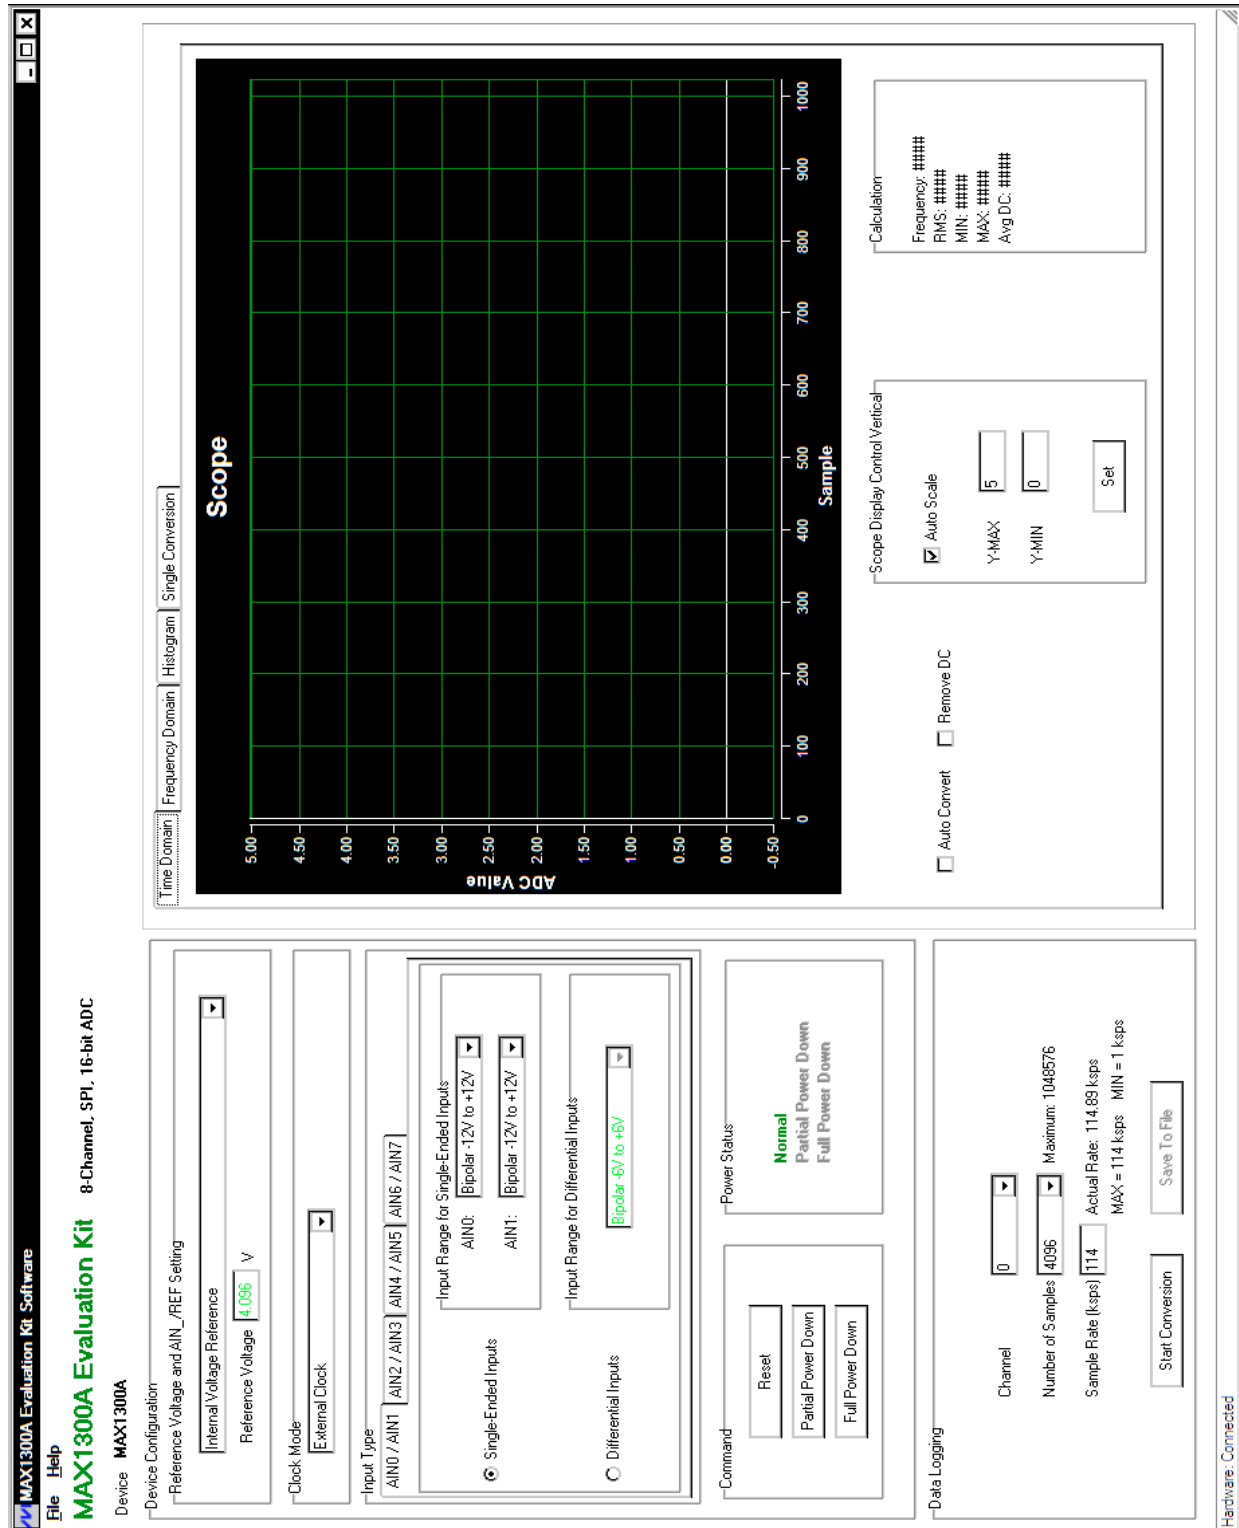

Figure 1. MAX1300A EV Kit Software (Main Window)
- 8) Start the EV kit software by opening its icon in the **Start | Programs** menu. The EV kit software main window appears, as shown in Figure 1. The GUI indicates whether the USB hardware is connected in the lower-left status bar.
The MAX1300A EV kit software main window is shown in Figure 1. The main window of the GUI contains a **Device Configuration** group box, a **Data Logging** group box, and four tab sheets to display the sampled data. The EV kit software allows various sample sizes and sample rates for use with the **Scope** plot in the **Time Domain** tab sheet. The **FFT** spectral energy is displayed in the **Frequency Domain** tab sheet. The **Histogram** tab sheet displays the distribution of the sampled ADC codes. The **Single Conversion** tab sheet displays the ADC codes and the corresponding voltage values of one data sample for all ADC input channels.